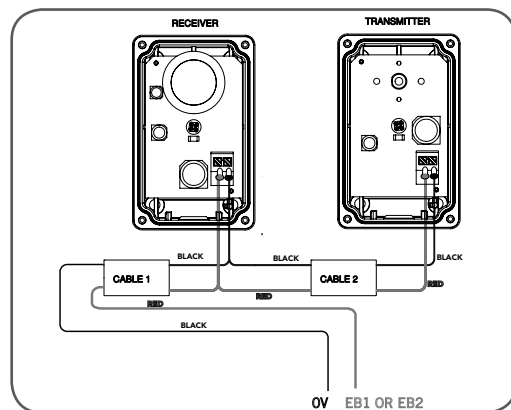

fig 41
- Mount the receiver to one side of the door and transmitter on the other side in line with receiver. The mounting surface should be rigid. ATA recommends the transmitter and receiver are placed in line of sight, with the beam 100mm above ground level (as per AS60335). They should also be placed as close as possible to the door opening. Connect as per the wiring diagram (Fig. 41).